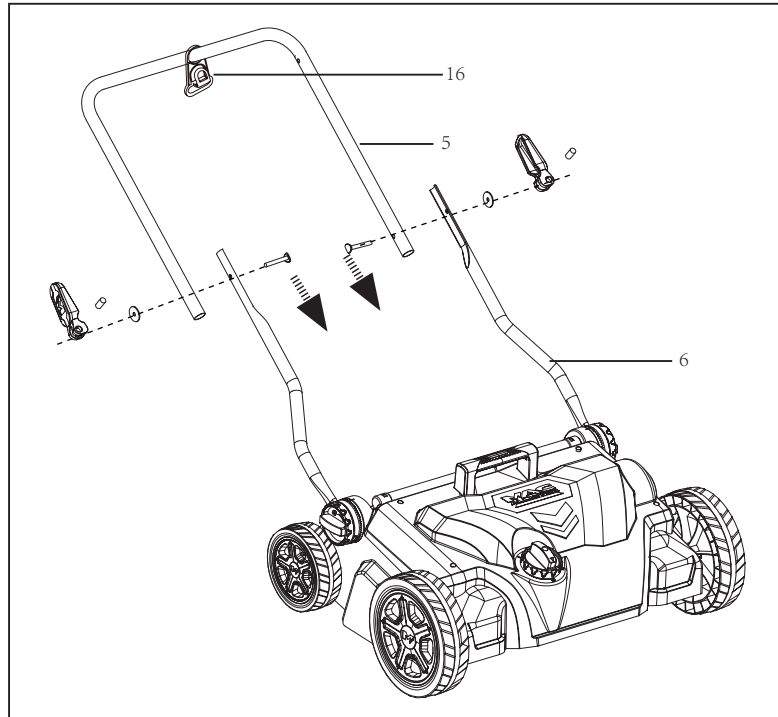

Fig. 4
2. Slide the cord strain relief (16) on to the middle handle bar (5) and align the lower handle bars (6) with the middle handle bar (5). Secure them with a mounting set (15) on each side (Fig. 4 - 7)